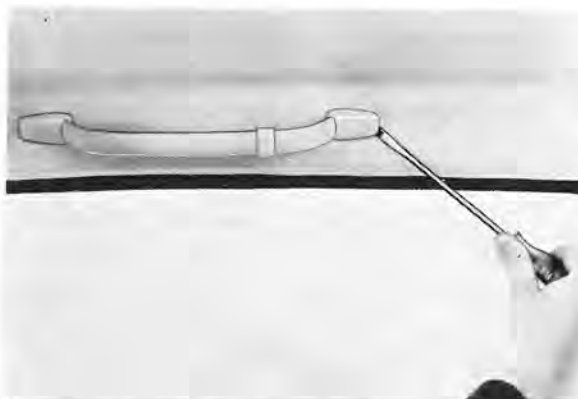

Fig. 8-54. Removing grab handle
8. Remove the grab handle and attachments over the door on the driver's side. By bending loose the trim cover (Fig. 8-54) it is then possible to get at the screws.